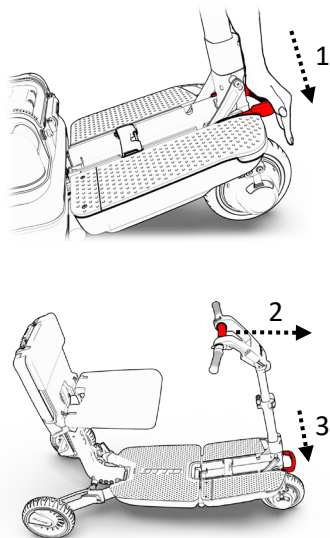

Figure 12
10. Lock the rod in upright position by pushing the front lever down until it clicks and locks in place (1) (see Figure 12). In case the front lever requires too much force to operate, you should apply horizontal pressure on the main handle towards the front of the ATTO (2). This will release the pressure on the front lever and will make it easier to lock (3).